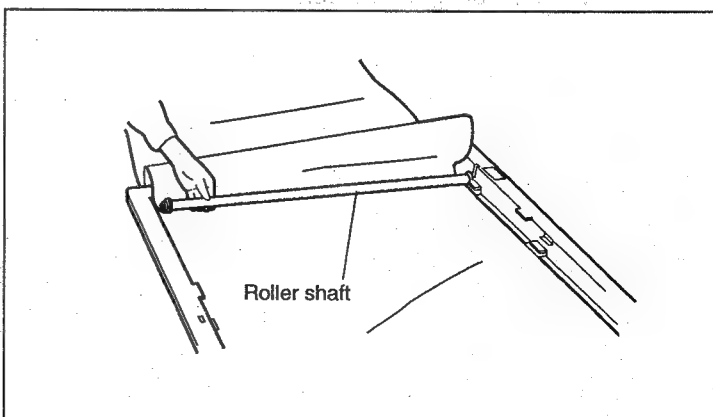

Fig. 7-25
- 5) Attach the roller as shown in Fig. 7-25.